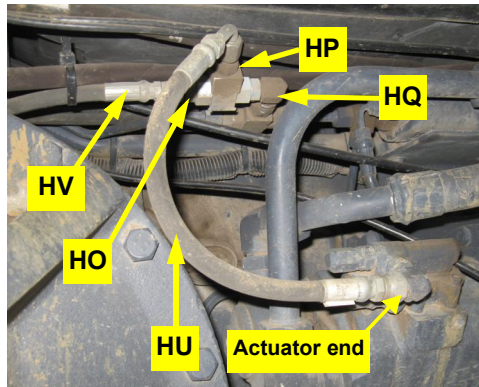

Figure 6c: Installed load sense shuttle valve
- e. Connect hydraulic hose **HV** to load sense shuttle fitting **HO** (not visible) and route the hose up to the hydraulic steering block (Figure 6c).